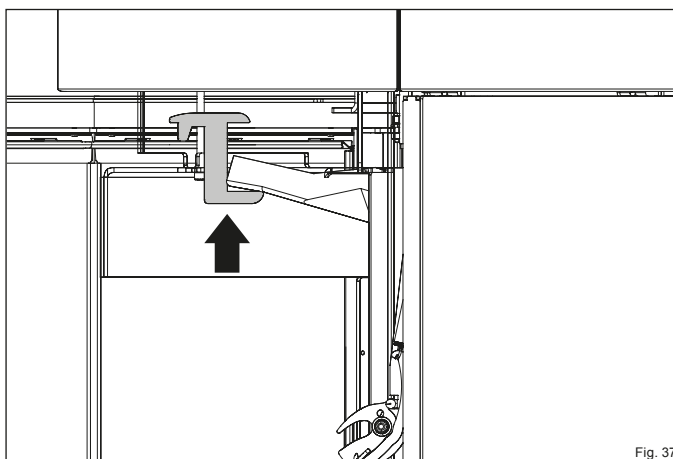

Fig. 37
- ▶ Slide the firebrick retainer upward (Figure 37).